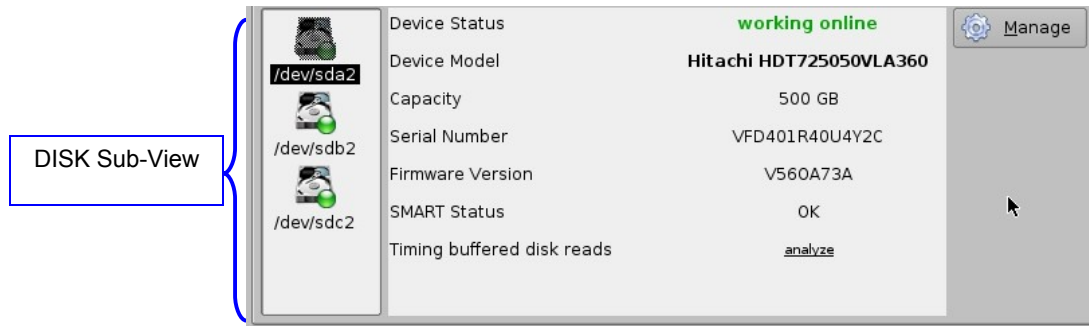

Figure 10: Storage Tab- Disk Sub-View
- Click on a Disk from the list on the left part of the GUI and the information pertaining to it will be displayed in the right part of the GUI (Figure 10).